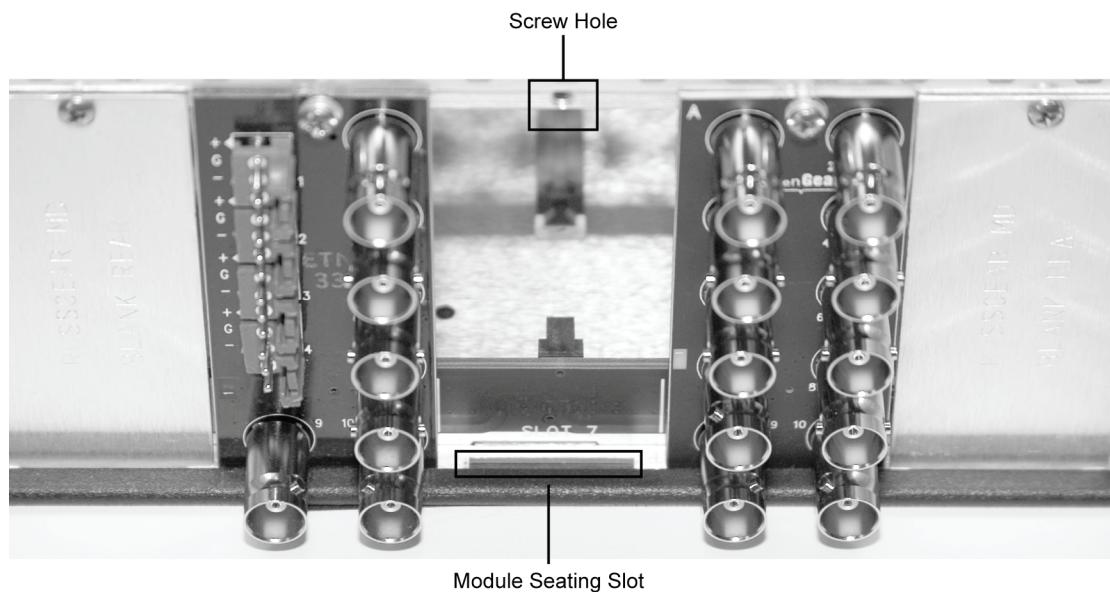

Figure 2. Rear Module Installation — DFR-8310 Series Frame (ADA-8401-B not shown)
4. As shown in **Figure 2**, seat the bottom of the rear module in the seating slot at the base of the back plane of the frame.